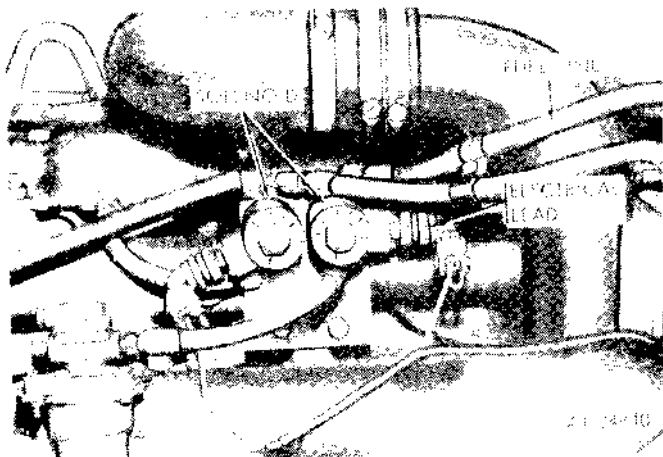

Figure 2-112. Disconnecting electrical leads and fuel lines at two solenoids—diesel models.
(1) Disconnect the two electrical leads (one from each solenoid) as shown in figure 2-112.
(2) Disconnect the four fuel lines from the two solenoids (fig. 2-112).
(4) Connect the fuel lines (fig. 2-112) to the solenoids.
(5) Connect the two electrical leads to the solenoids (fig. 2-112).